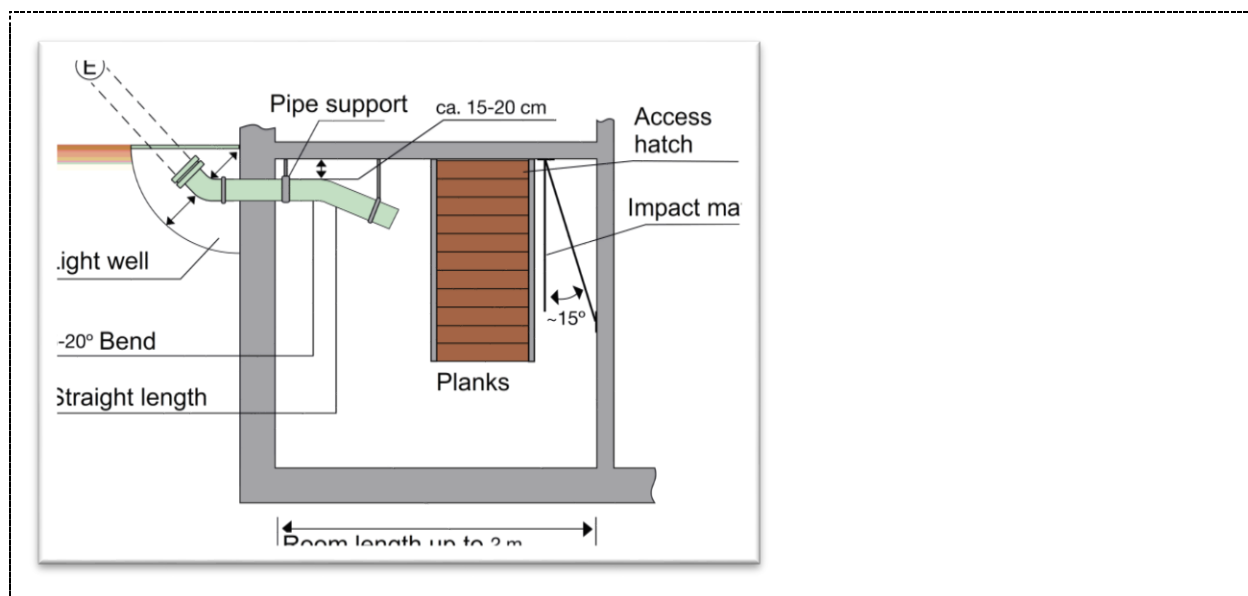

Figure 9 Best practice design of a storage room with a depth < 2m
Small stores, with a room depth of less than 2 metres, present a high risk of broken pellets due to impact forces. A special design of the injection pipe and the impact protection mat (see Figure 9) helps to avoid excessive mechanical stress on the pellets:
- The outlet of the injection pipe should direct the pellet stream slightly downwards (see Figure 9). This should be realised using a tube bending of 15-20 degrees followed by a final straight length of 30 cm. The straight length can also be realised by using a properly fixed length of conductible injection hose. In this case the inner steel spiral must have a firm connection to the metal pipe to provide earthing of the entire injection line.